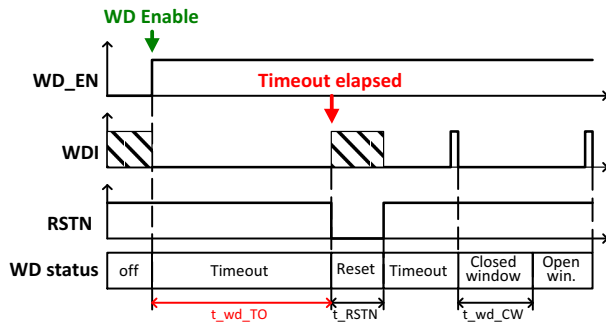
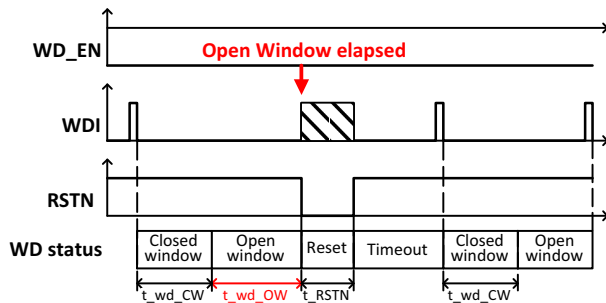
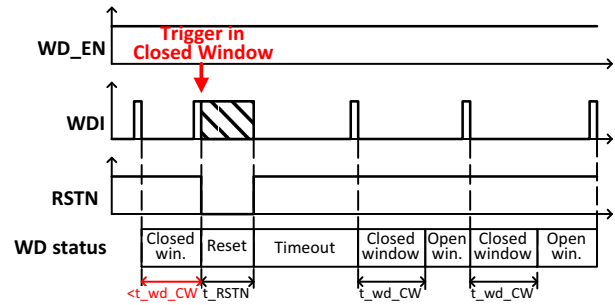

Figure 13. Missed Watchdog in Timeout Mode
Figure 14. Missed Watchdog in Window Mode
Figure 15. Watchdog Service during Closed Window
- ♦ Temperature (see Figure 14)
In case the watchdog is not triggered before the timeout or open window elapses (Figure 13, Figure 14), or trigger is sent within the closed window (Figure 15), RSTN signal is generated and then watchdog restarted in the timeout mode again.